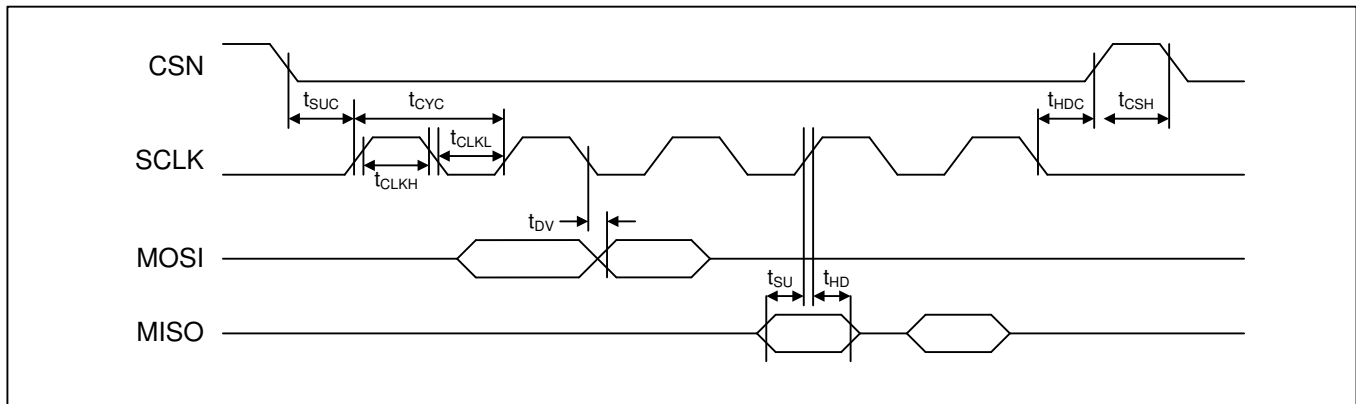

Figure 21 - SPI Master Interface Timing
- Note 3:** See timing diagram in Figure 21.